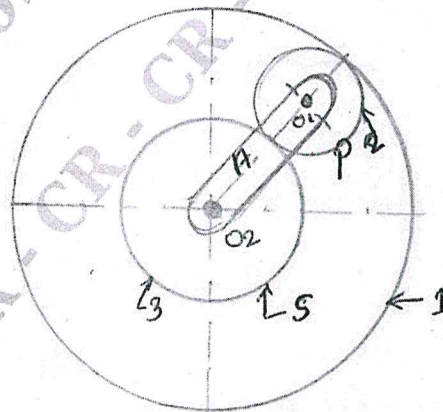

Fig. Q8 (b)
- b. An epicyclic gear train consists of three gears : 1, 2 and 3 as shown in Fig. Q8 (b). The internal gear 1 has 72 teeth and gear 3 has 32 teeth. The gear 2 meshes with both gear 1 and gear 3 and is carried on an arm 'A', which rotates about the centre O_2 at 20 rpm. If the gear 1 is fixed, determine the speed of gear 2 and 3. (10 Marks)